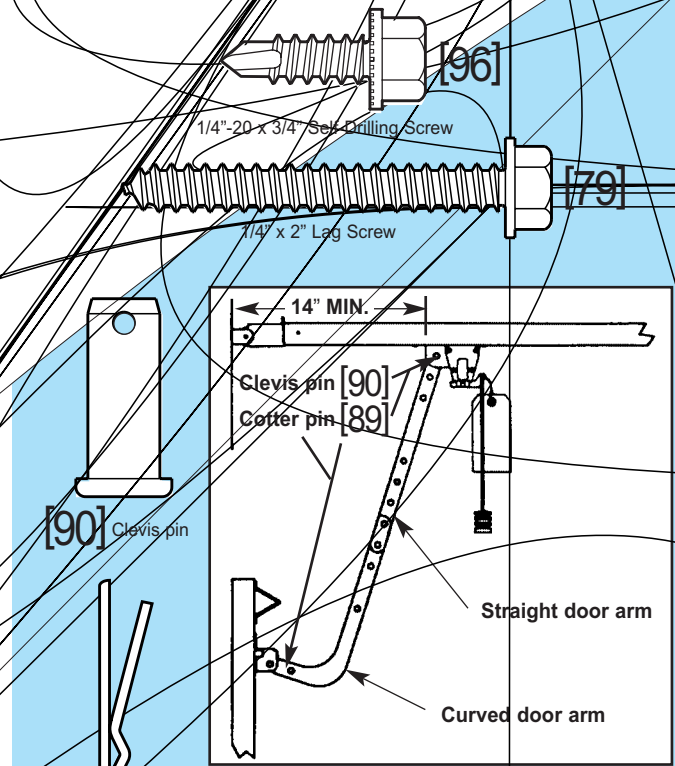

Fig. 2-7
9. Install door arms (Fig. 2-7).
- Attach straight door arm to carriage as shown in Fig. 2-7.
- slip straight door arm into slot in carriage as shown in Fig. 2-7.
- Attach short curved door arm to door bracket as shown in Fig. 2-7.
- slip short curved door arm into slot in door bracket as shown in Fig. 2-7.